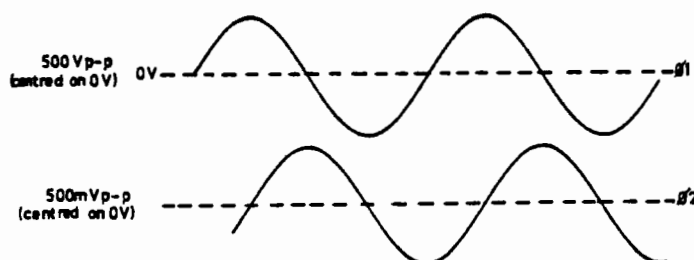

Fig. 7 Ø1 and Ø2 inputs.
36. Ø1 and Ø2 inputs are 3.90625 kHz sine waves with a phase difference of 90° as shown in Fig. 7